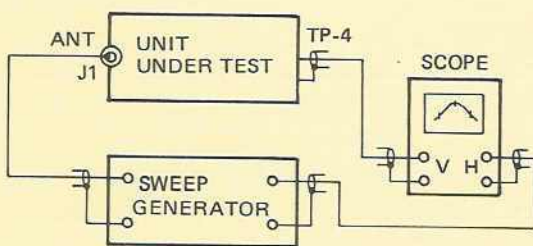

FIGURE 13. UHF BAND RF TEST EQPT. HOOK UP
Step 1: Connect instruments as shown in Figure 13.